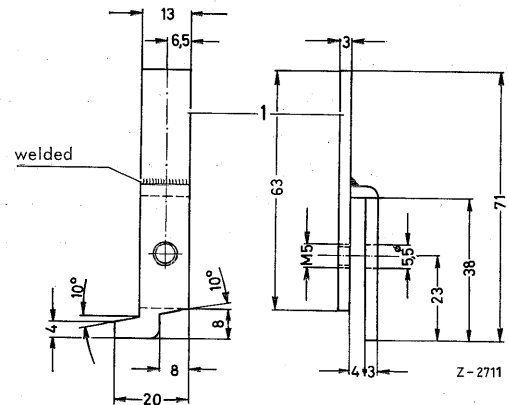

Fig. 36 Additional lever (3) for graduated disk
For this check, the previous adjusting device with graduated disks should be used. However to enable fitting of the graduated disk to the regulating lever of the fuel injection pump, an additional lever as shown in fig. 36 should be manufactured. First, fit additional lever (3)